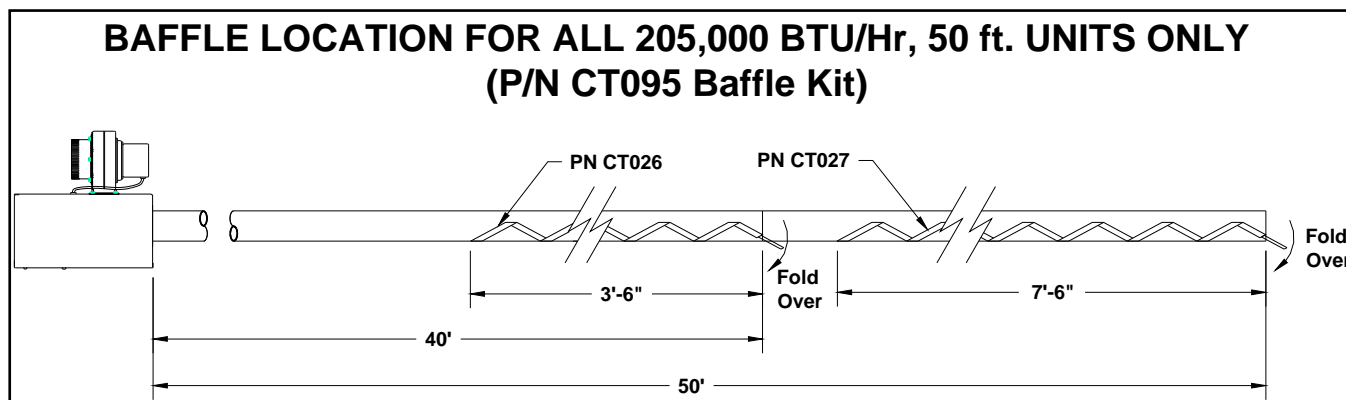

Figure 3: Baffle Location UA/UX/UXR-205 Models
- 205,000 BTU/Hr 50' heat exchanger with a 4' baffle at 40', and a 8' baffle at 50'. (See Figure 3)
Note: Baffles are always placed at the end of the last heat exchanger tube length, with the exception of the special configuration 205,000 BTUH with a 50' tube length, refer to Figure 3 for more details.